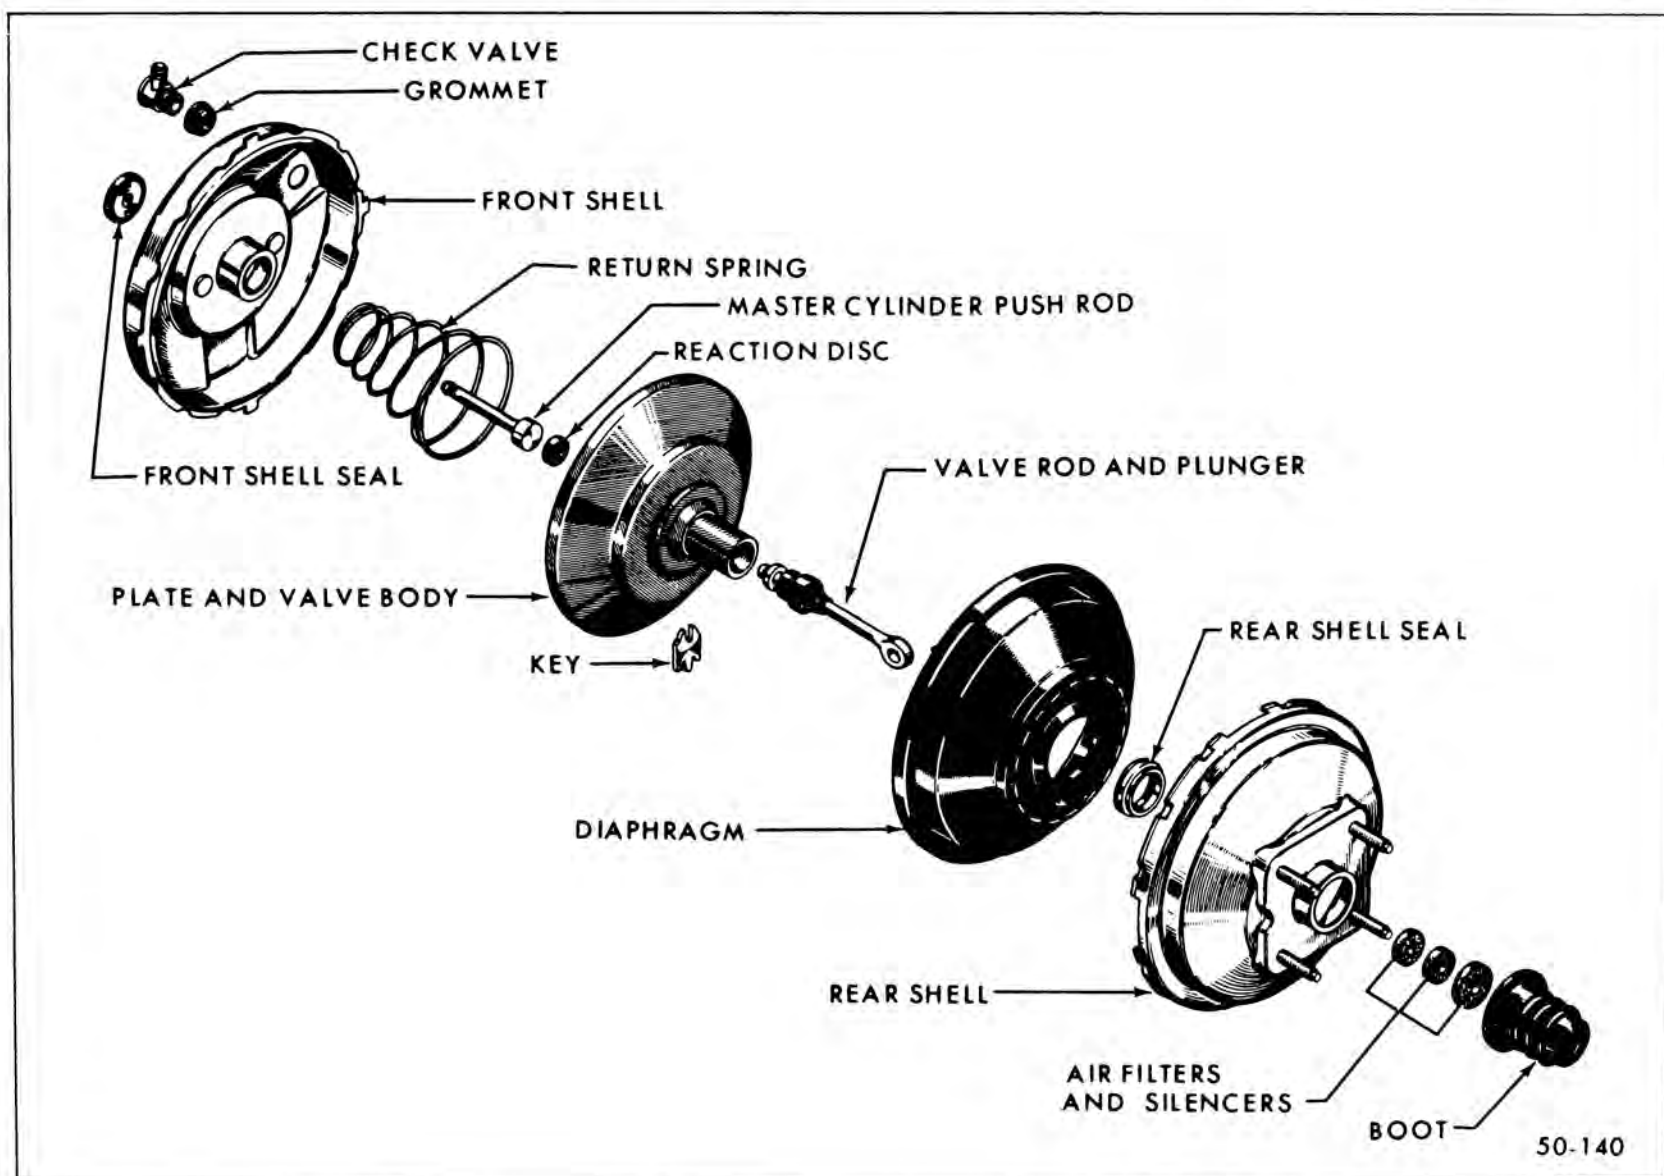

Figure 50-72—Bendix Power Brake - Exploded View
6. Remove seal from front shell, and if defective, vacuum check valve. See Figure 50-72.